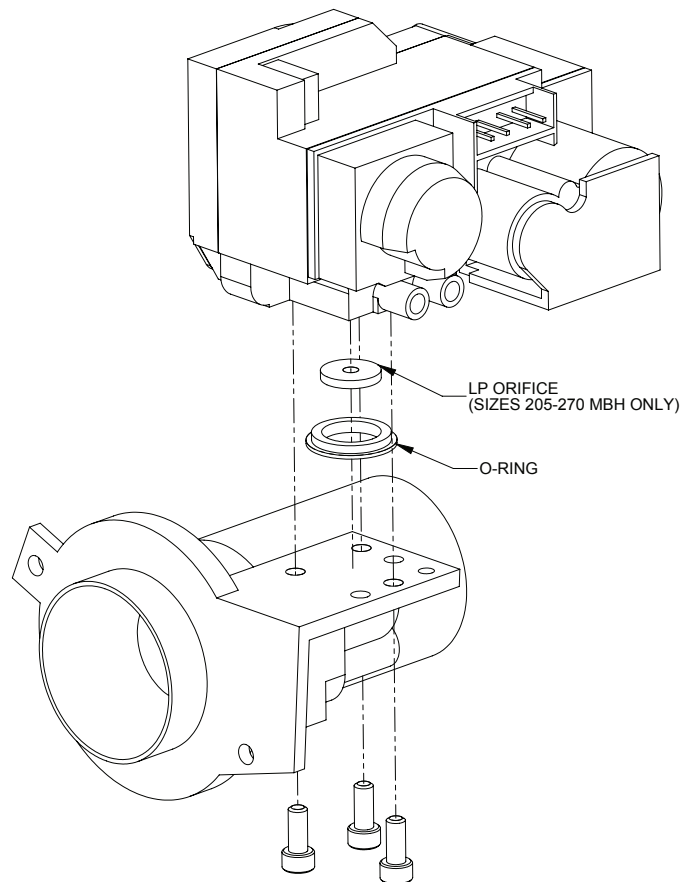

Figure A.1: LP Orifice Installation
- 2) Install provided LP gas orifice per Table A. Orifice installation is shown in Figure A.1. Boiler sizes 205 and 270 require field installation of factory supplied orifice (P/N: 106156-01) and adjustment of throttle screw for conversion to LP gas. Boiler sizes 85, 110, and 155, require only adjustment of throttle screw for conversion to LP gas.